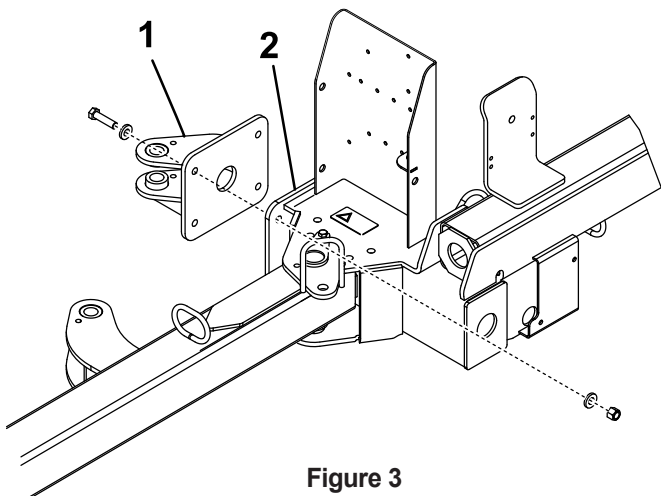

Figure 3
1. Mount the rear actuator tab to the machine frame with 4 bolts (1/2 x 2 inch), 8 flat washers (0.531 x 0.063), and 4 locknuts (1/2 inch). Position the components as shown in Figure 3.